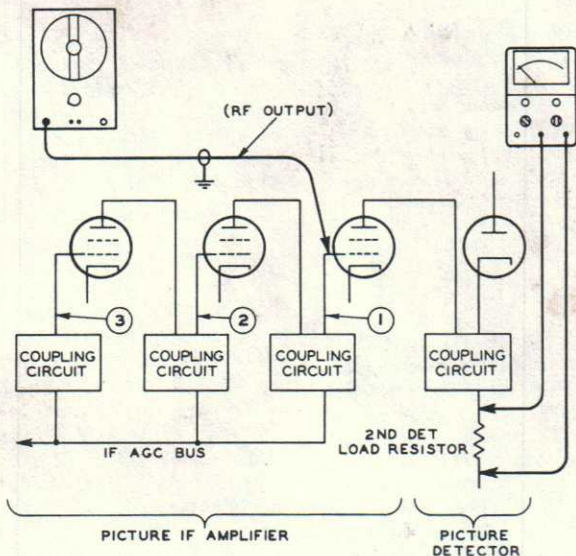

Figure 11. Setup for making approximate stage gain check in picture-if amplifier
Figure 11. Checking approximate stage gain in a picture-if amplifier. The agc circuit should first be rendered inoperative as described in Figure 12. Set up the VoltOhmyst to measure dc voltage and connect the VoltOhmyst across the second-detector load resistor.
1. Connect the rf output cable of the WR-50B to the grid of the last picture-if tube, shown as point "1" in Figure 11. Tune the WR-50B to a frequency in the picture-if pass band for maximum indication on the meter. Adjust the output (without modulation) to produce 0.5 volt across the load resistor.